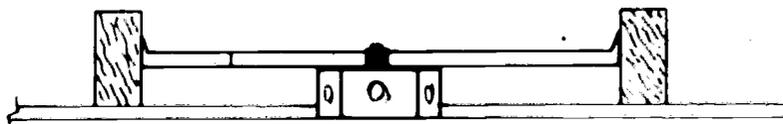

FIGURE 2
N. Nail box between joists (Figure 2)